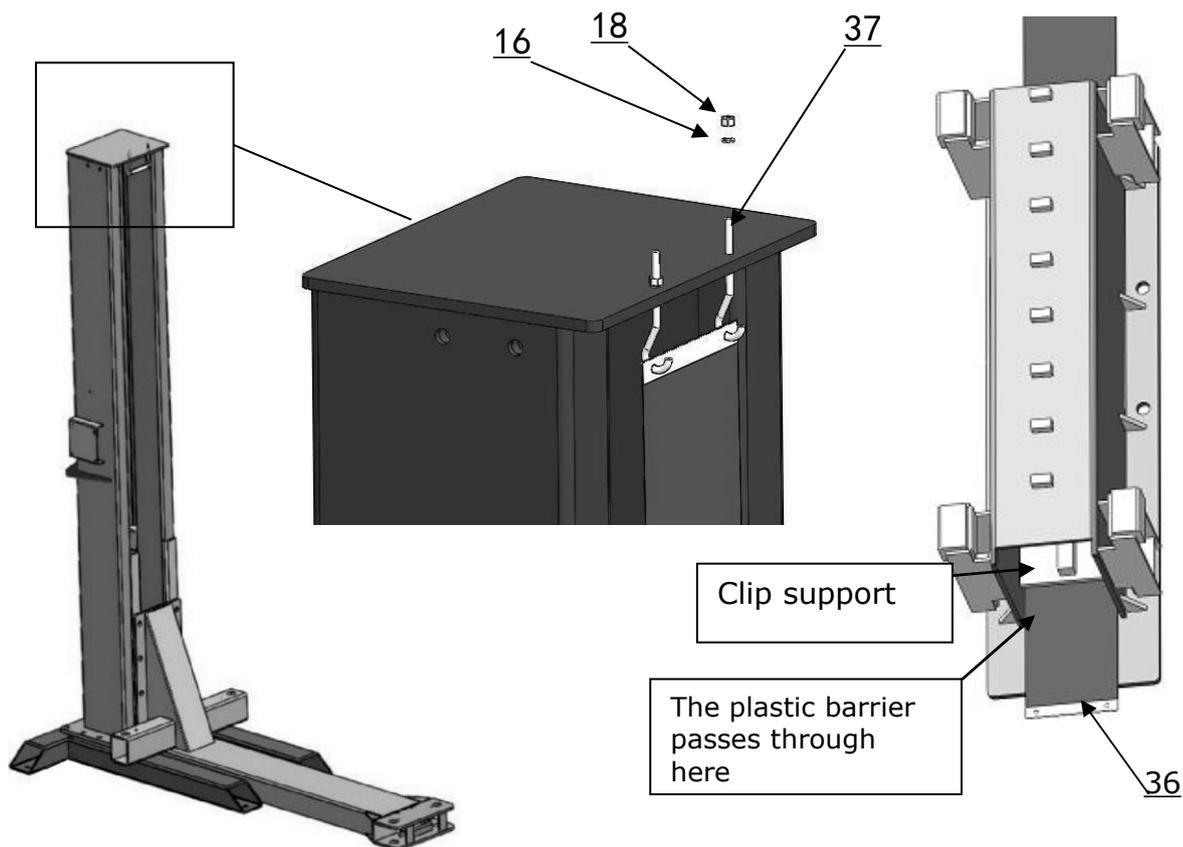

Fig. 15
F. Install plastic barrier (See Fig.15)